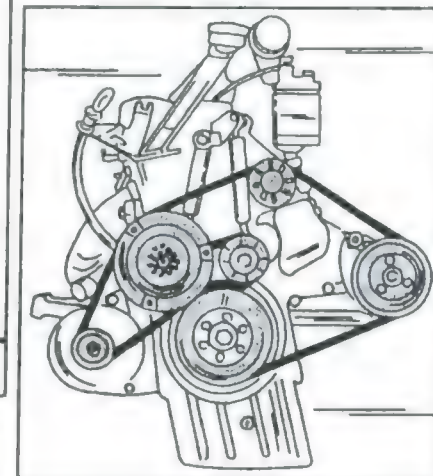

Fig. 1.90 - Layout of the drive belt for basic models without power-assisted steering.
Figs. 1.90 and 1.91 show the belt layout on some of the engines. If an A/C system is fitted, you will find an additional pulley below the pulley for the steering pump. The belt drive should be checked every 12,000 miles. To do this, mark an easy accessible part of the belt with chalk and crank the engine by at least one turn with the starter motor. To prevent the firing of the cylinders, push the stop lever on the injection pump towards the bottom. Ask a helper to operate the starter motor and check the whole length of the belt, i.e. until the chalk
- Remove the plug from the side of the injection pump at the position shown in Fig. 1.96. The serrated wrench 601 589 05 21 00 must now be used to rotate the pump until the lug (3) of the governor rotor is visible. In this position insert the locking tool 601 589 05 21 00, as shown in the illustration. Hand-tighten the nut of the locking bolt. If the tools can be obtained, carry out the operation by studying Fig. 1.90. Read the note below.